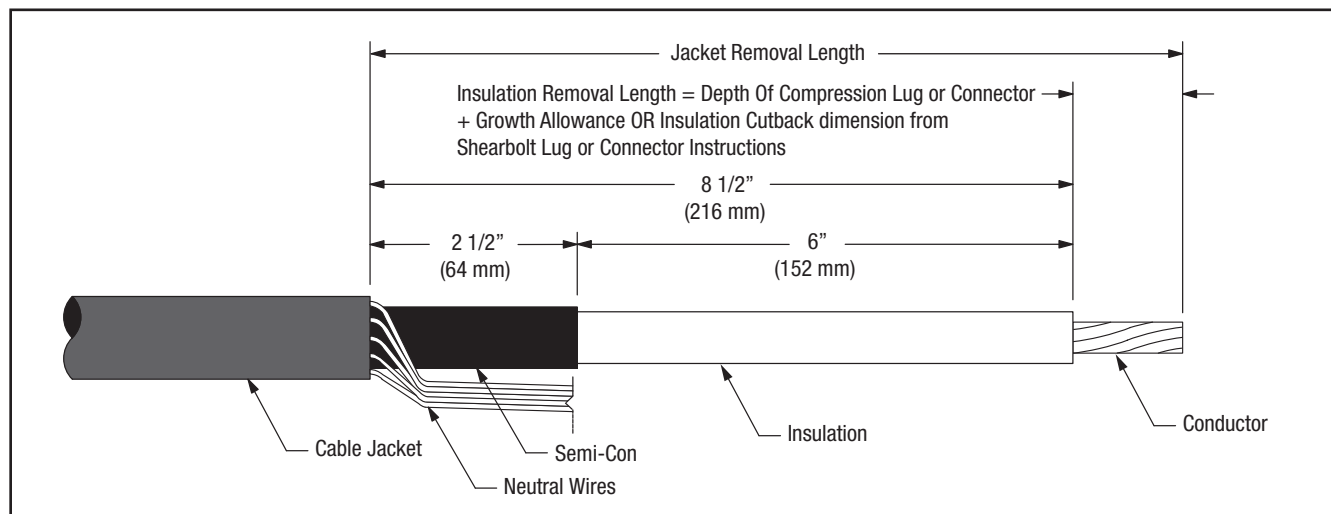

Figure 1
- 2.3 Prepare cable using dimensions shown in Figure 1. **BE SURE TO ALLOW FOR DEPTH OF TERMINAL LUG OR CONNECTOR.** If using 3M Shearbolt Lugs QL2 Series: Two Hole, 3M Shearbolt Stem Connector QP 7-4/0 or 3M Mechanical Shearbolt Connector QCI Series, proceed to Step 2.4. If using a Crimp Type (Compression) lug, measure the depth of the barrel, or if using a Crimp Type (Compression) connector, measure to the barrel center stop/midpoint, and see the NOTE below, in order to calculate the Insulation Removal Length. Table 4 can be used to assist in calculating the total Jacket Removal Length when using a compression lug or connector.